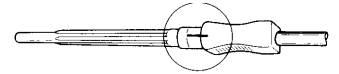

Figure 8
7. Do not use if needle protector is opened. Bars on the needle should be in the same line. (Figure 8)